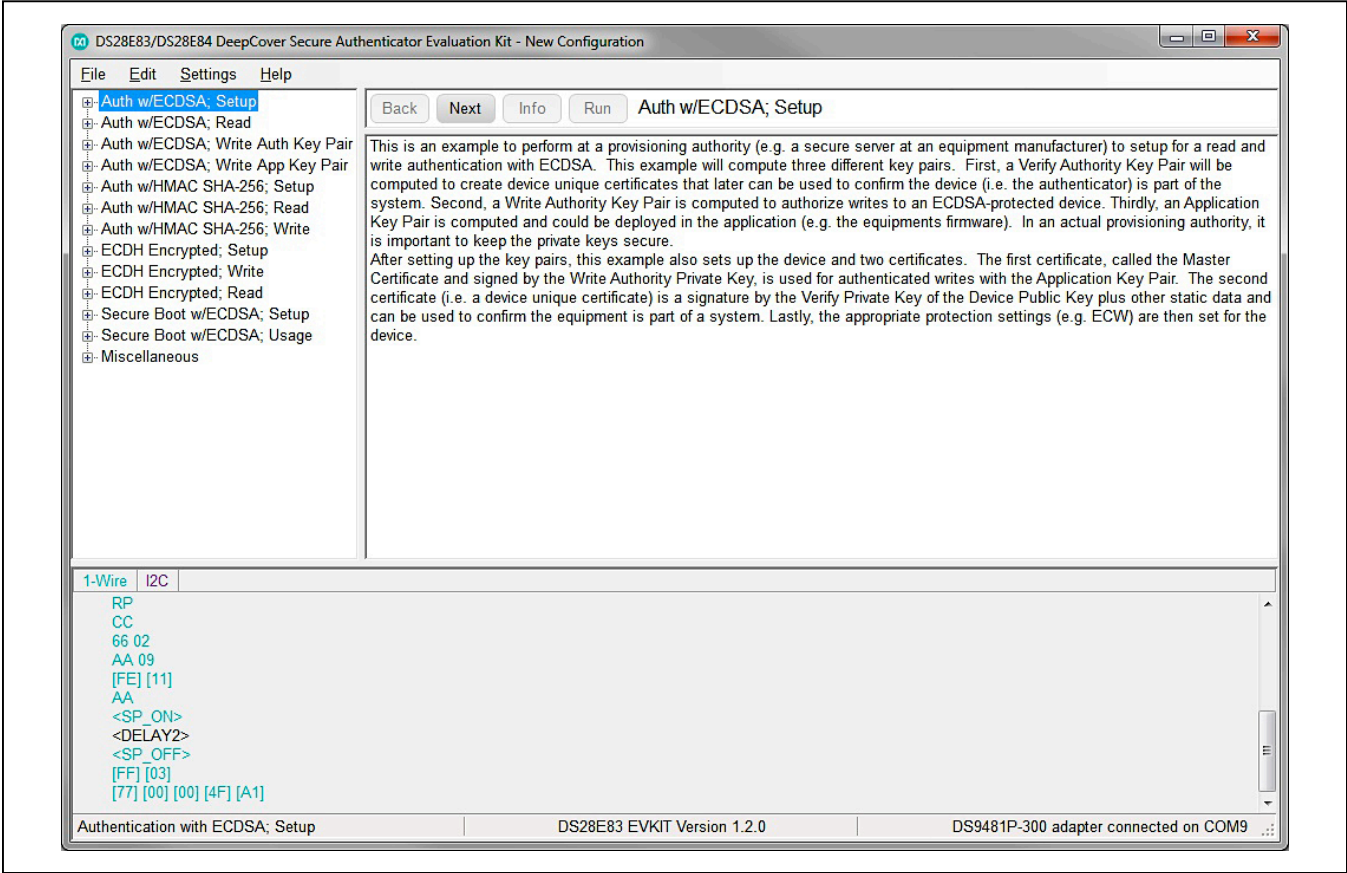

Figure 11. DS28E84 EV Kit Program (Default View Upon Opening)
12) The DS28E84 EV kit program opens and automatically connects to the COM port. This can be verified in the lower right corner of the window, as shown in Figure 11.